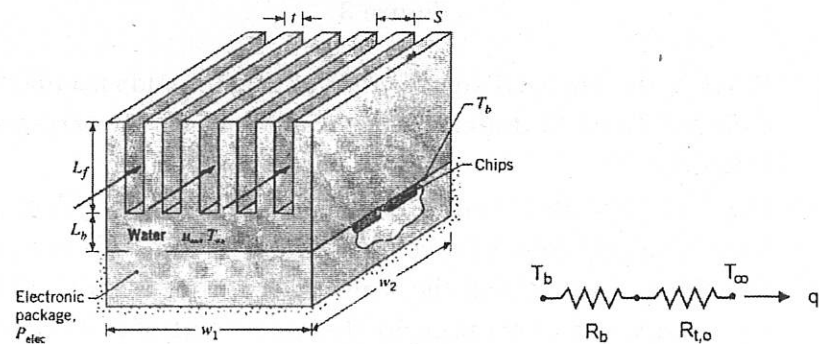

Figure 4
16. (a) An array of electronic chips as shown in figure 4, is mounted within a sealed rectangular enclosure, and cooling is implemented by attaching an aluminum heat sink ($k = 180 \text{ W/m.K}$). The base of the heat sink has dimensions of $w_1 = w_2 = 100 \text{ mm}$, while the 6 fins are of thickness $t = 10 \text{ mm}$ and pitch $S = 18 \text{ mm}$. The fin length is $L_f = 50 \text{ mm}$, and the base of the heat sink has a thickness of $L_b = 10 \text{ mm}$. If cooling is implemented by water flow through the heat sink, with $u_\infty = 3 \text{ m/s}$ and $T_\infty = 17^\circ\text{C}$, what is the base temperature T_b of the heat sink when power dissipation by the chips is $P_{\text{elec}} = 1800 \text{ W}$? The average convection coefficient for surfaces of the fins and the exposed base may be estimated by assuming parallel flow over a flat plate. Properties of the water may be approximated as $k = 0.62 \text{ W/m.K}$, $\rho = 995 \text{ kg/m}^3$, $c_p = 4178 \text{ J/kg}$, $\nu = 7.73 \times 10^{-7} \text{ m}^2/\text{s}$, and $\text{Pr} = 5.2$.